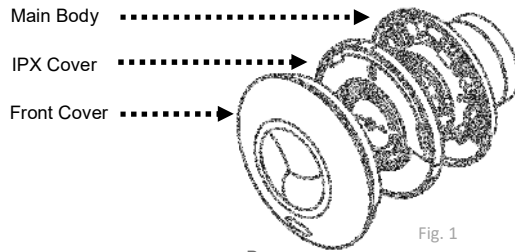

Fig. 1
4. Hold main body, turn the front cover anticlockwise. Note front cover position for re-assembly purposes. Lift cover off. (Fig.1/4)